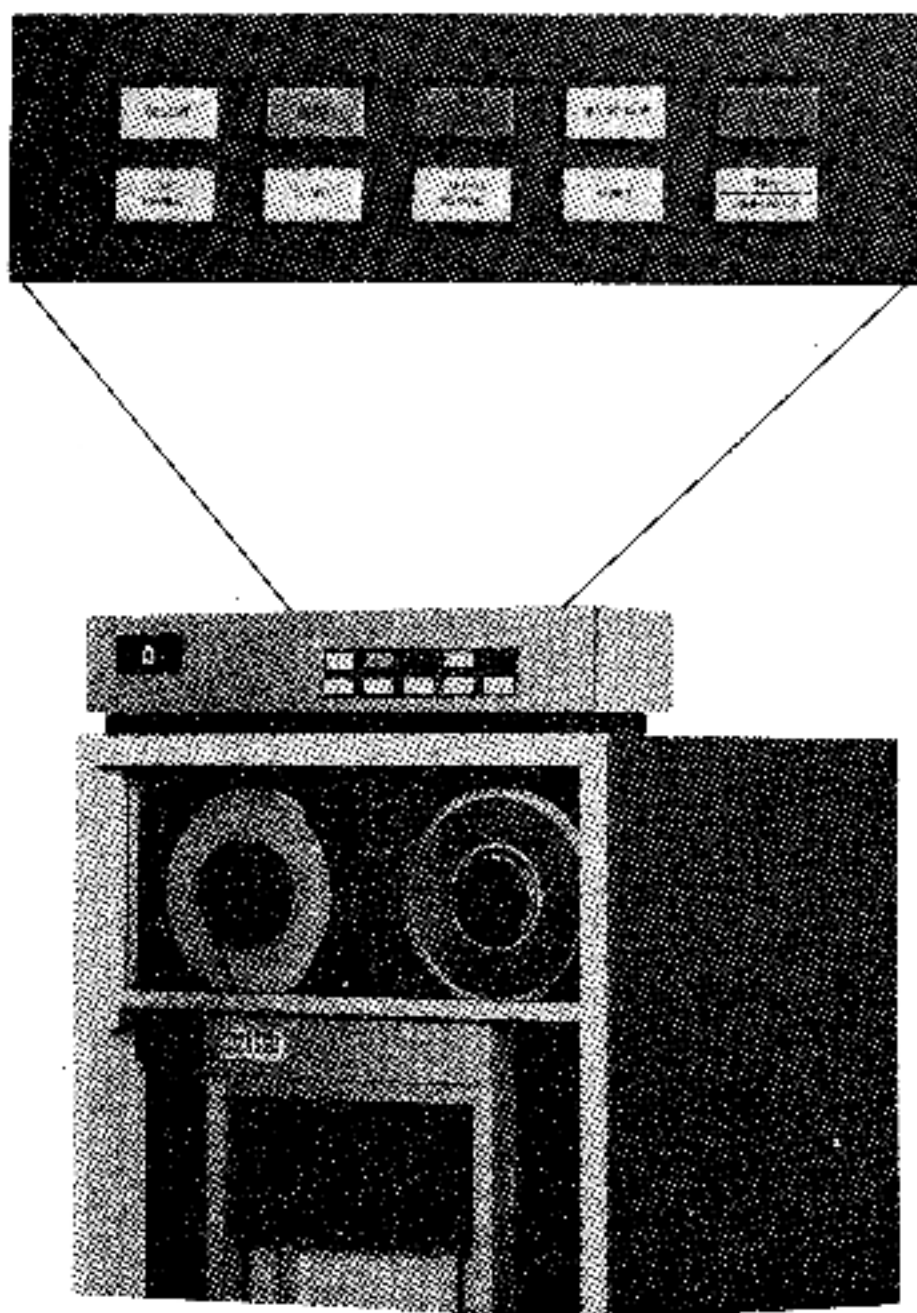

Figure 7-12 TH70 Series Magnetic Tape Drive
7.4.1.3 TU70, TU71, and TU72 Drives (Refer to Figure 7-12)